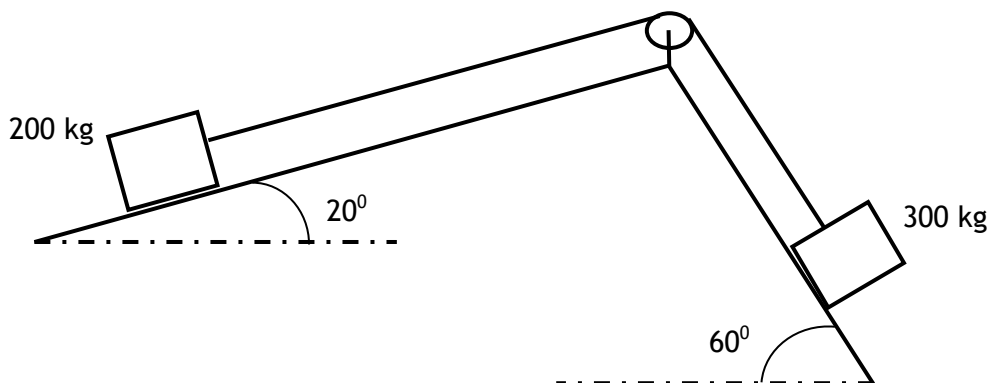

Fig Q2
- (a) the shortest time in which the truck, starting from rest, can ascend the incline; (8)
- (b) the driving torque required at the drum. (8)
2. Two masses are connected by a wire passing over a light, smooth pulley as shown in Fig Q2. The coefficient of friction between the masses and the inclines is 0.2.
- (a) the acceleration of the masses; (10)
- (b) the tension in the cable; (3)
- (c) the time taken for the masses to move 10 m. (3)